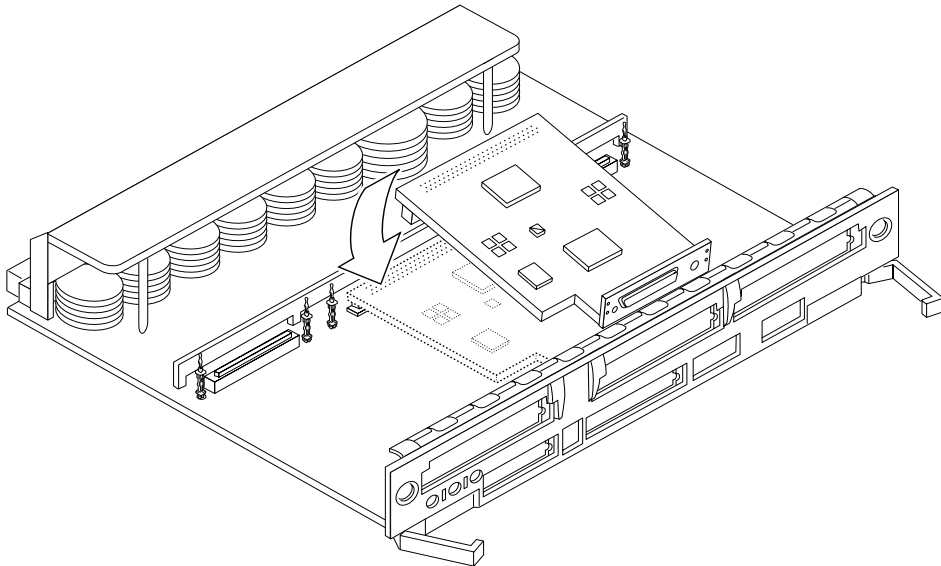

FIGURE 4-22 Removing or Installing a Graphics (UPA) Card
2. Locate the card (FIGURE 4-22).
6. Lift the card from the socket at an angle while guiding the face plate out from the back panel opening (FIGURE 4-22).